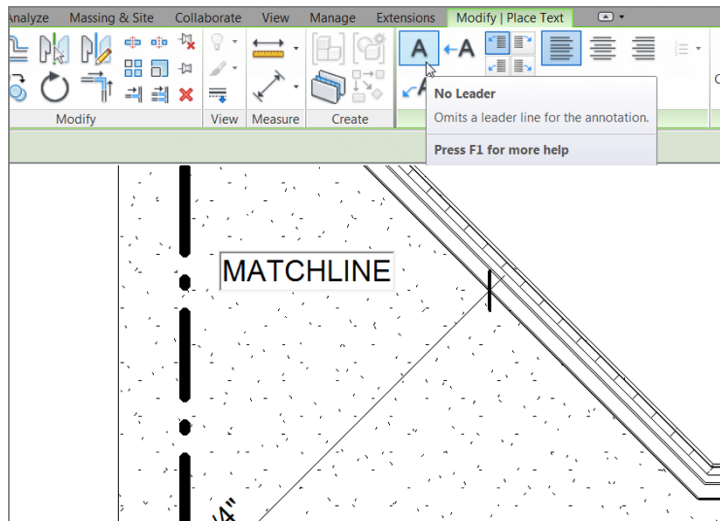

FIGURE 13.12: Typing the text MATCHLINE
3. On the Modify | Place Text tab are leader options. Click the No Leader button (the A), as shown in Figure 13.12.
5. Type the word **MATCHLINE**, click off the text, and press Esc twice (see Figure 13.12).